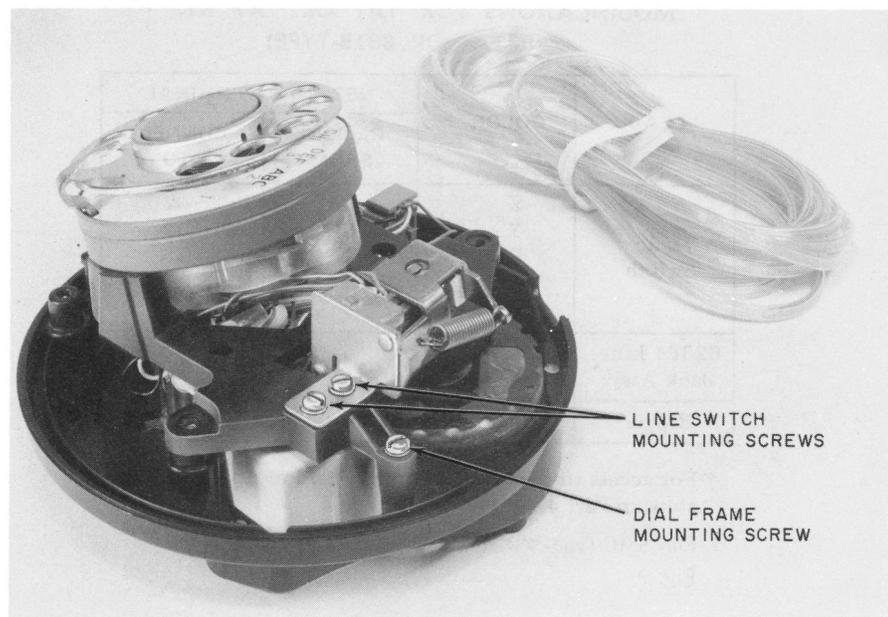

Fig. 3—Removing Line Switch and Dial Mounting Frame
- (2) Remove one dial frame and two line switch mounting screws from the base and remove dial frame and line switch (Fig. 3).